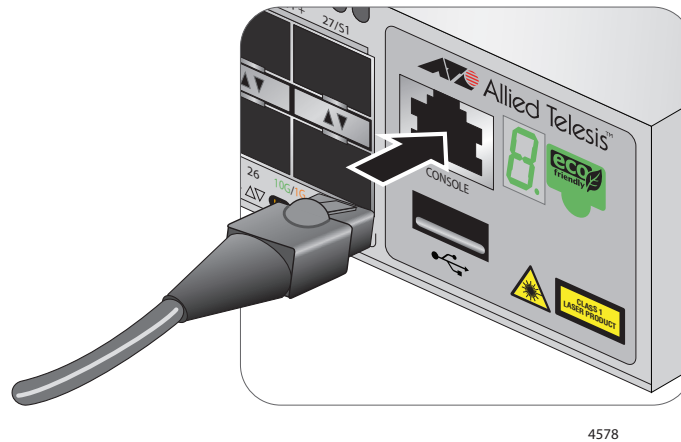

Figure 20. Connecting the Management Cable to the Console Port
1. Connect the RJ-45 connector of the management cable to the console port on the front panel of the switch, as shown in Figure 20.